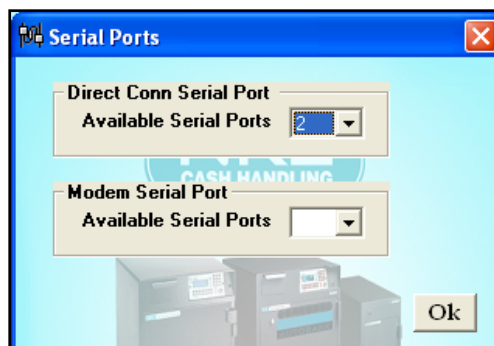

Fig. 7.6
- 2) The Serial Ports Window will appear (Fig. 7.6). Select the correct serial port for the type of connection you are using (serial or dial up modem). Select **OK** when finished.